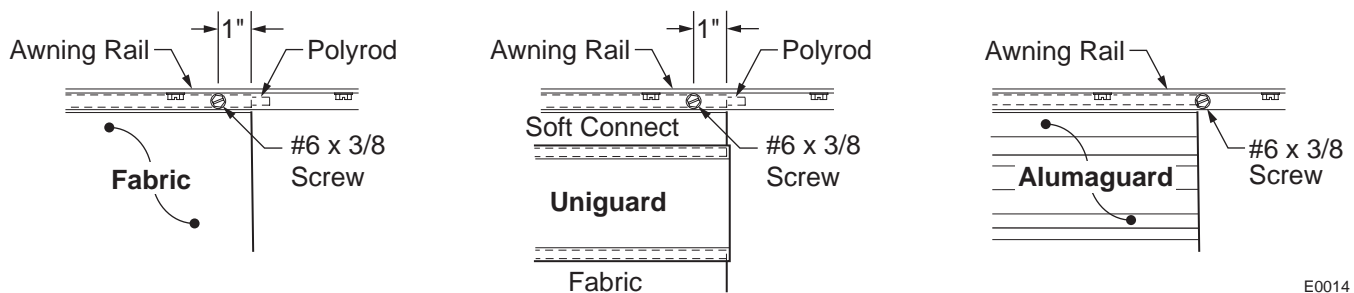

Figure 9. Securing the Fabric.
2. (refer to Figure 9) Secure the canopy fabric or Alumaguard using one, #6 x 3/8" hex head screw at both sides of the awning.